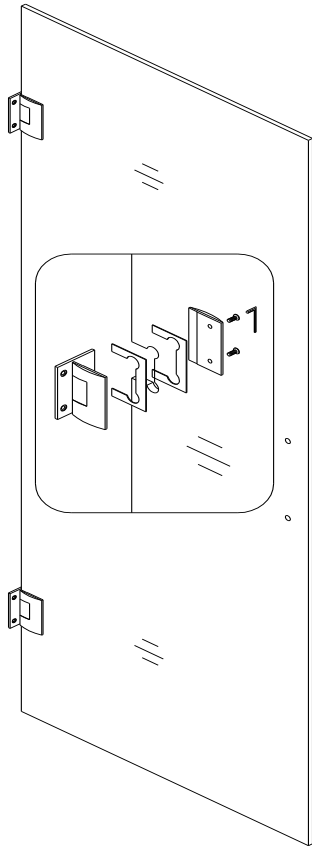

fig. 1
1. Locate the **Glass door (01)** from the package and attach **Hinges (05)** on it. See Fig. 1 for details.